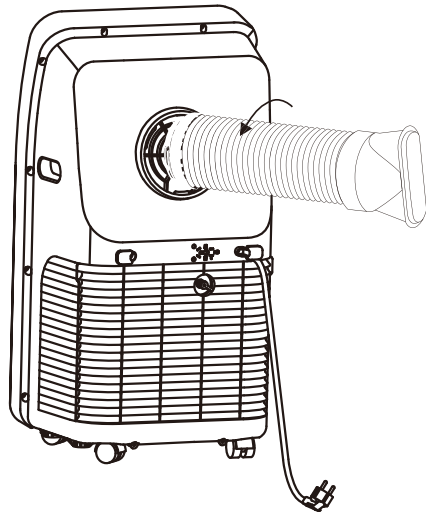

Fig. 1
1. Install the Exhaust pipe assembly (as shown in Fig.1).